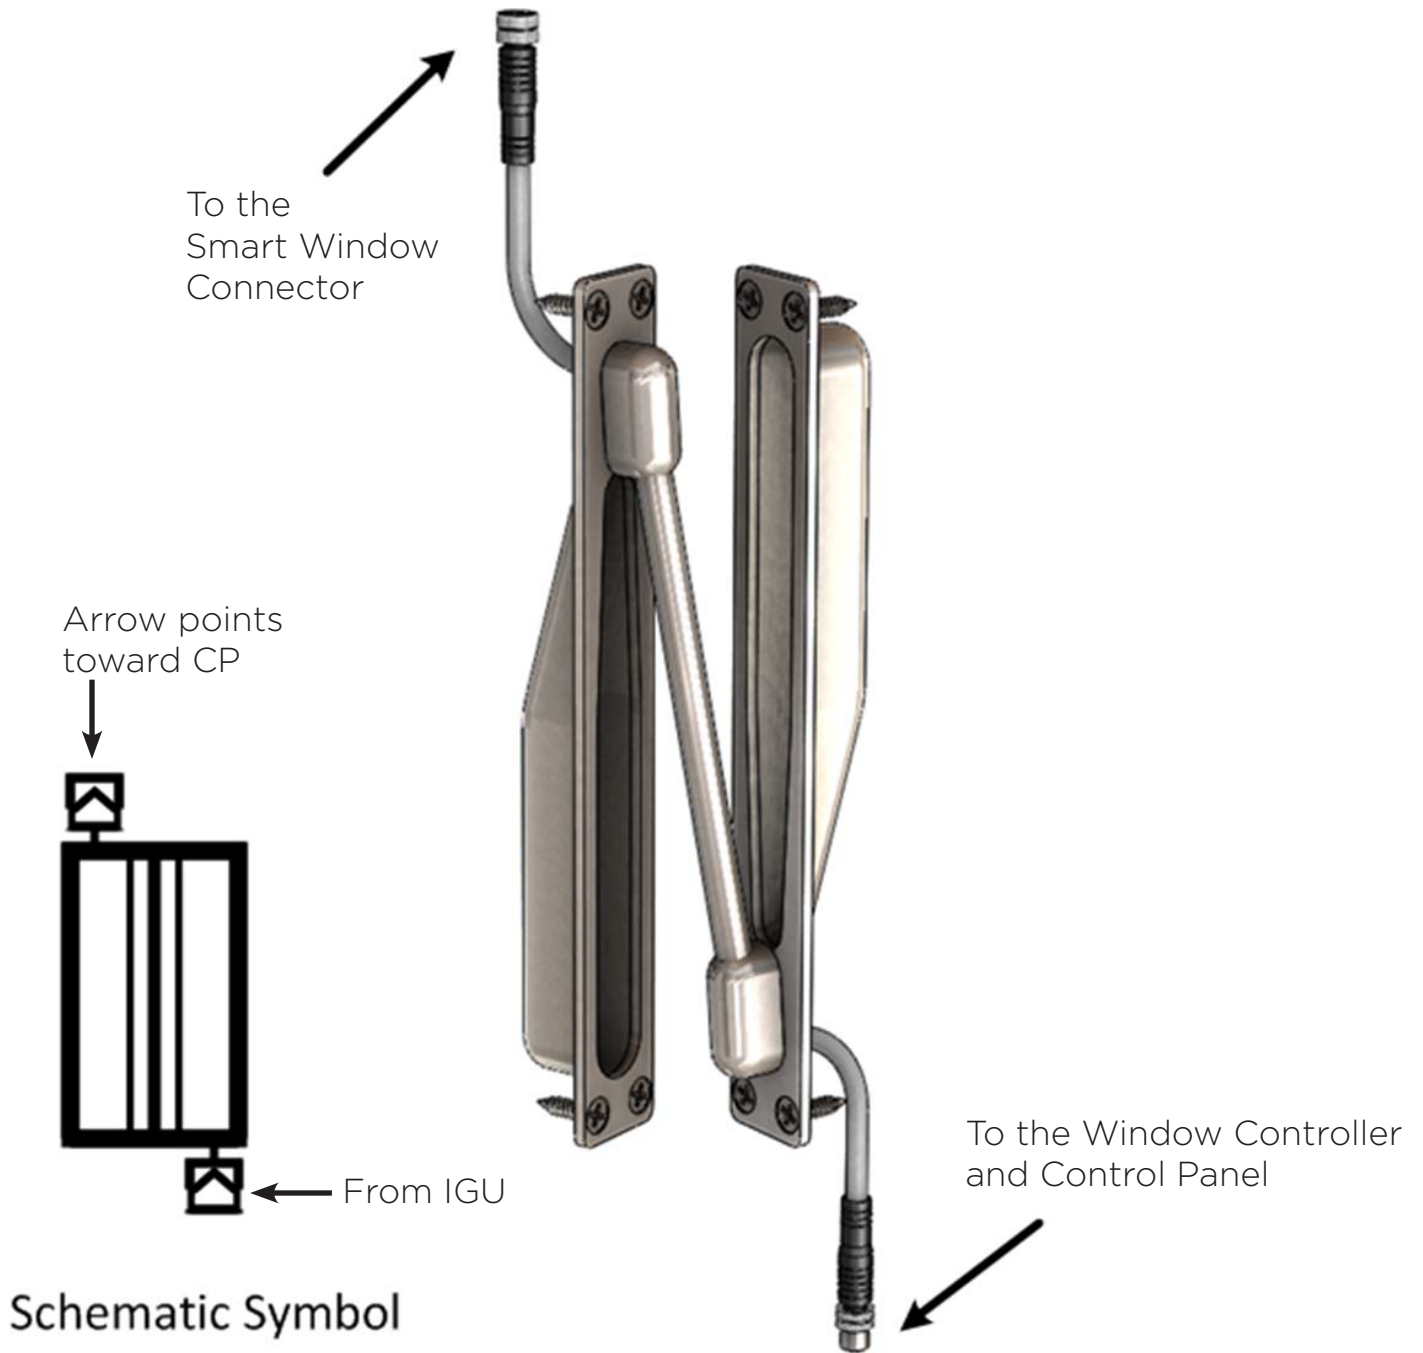

Figure 1 – Concealed Transfer Assembly
1. The Concealed Transfer (figure 1).